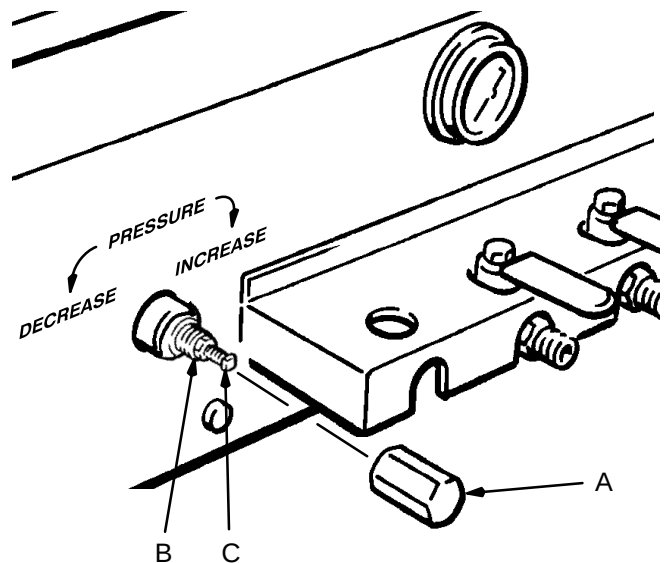

Fig 3
1. Remove the hex shaped cap (A) covering the adjustment screw (C). See Fig 3.
2. Loosen the jam nut (B) and adjust the pressure by turning the stud (C) in the direction indicated by the arrows.
3. Tighten the jam nut (B) and replace the adjustment screw cap (A).